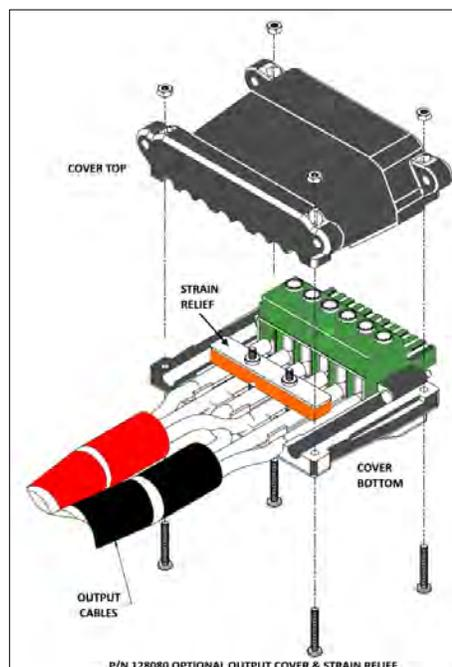
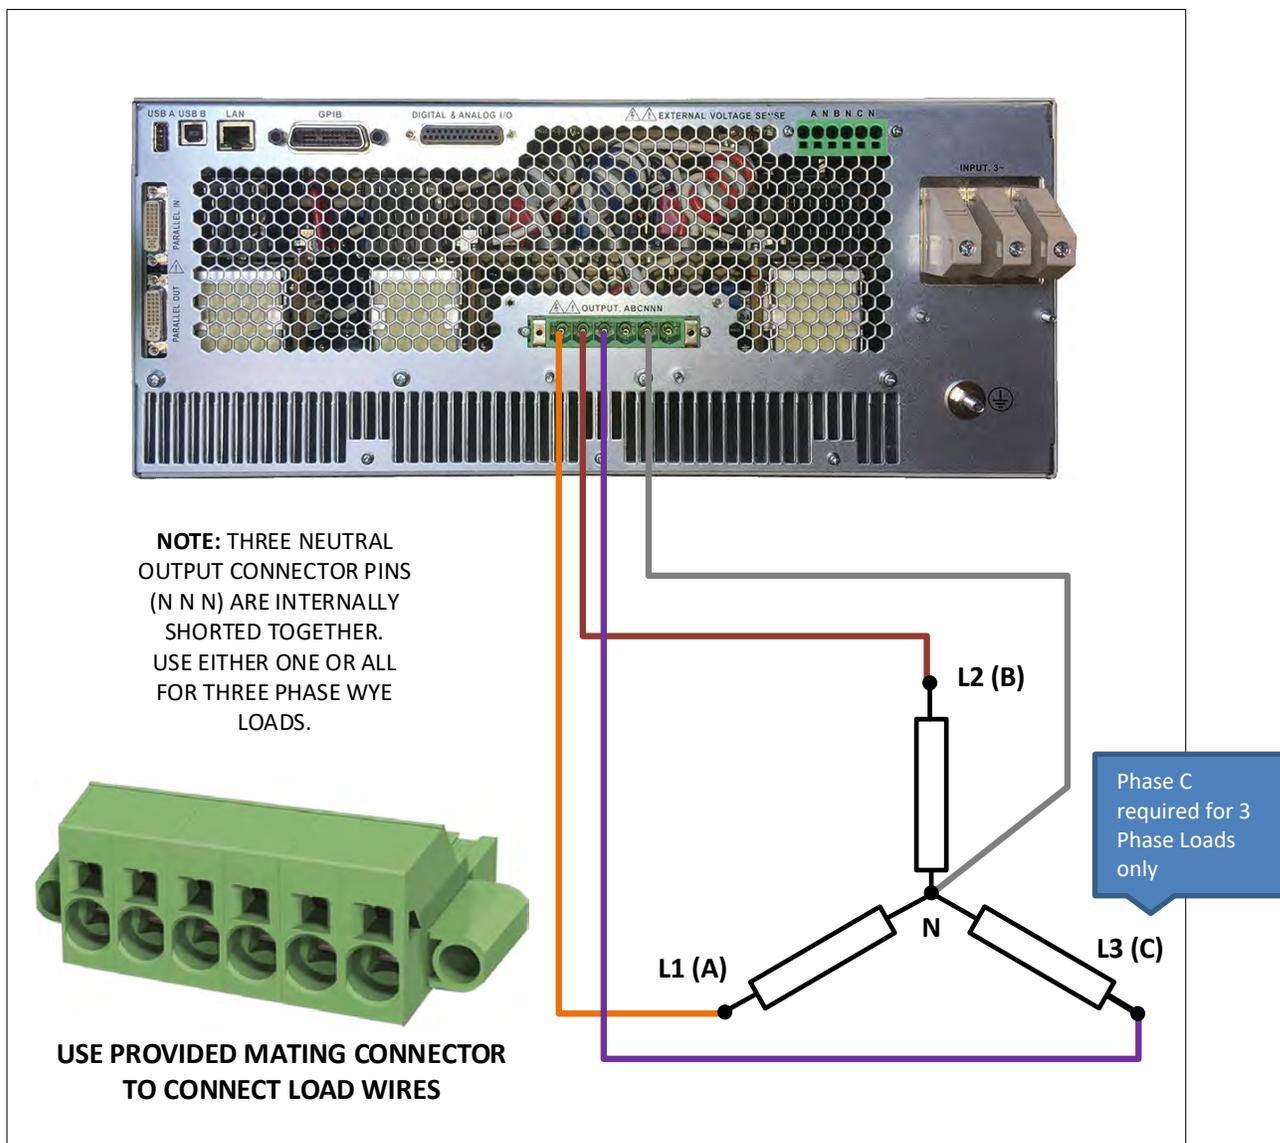
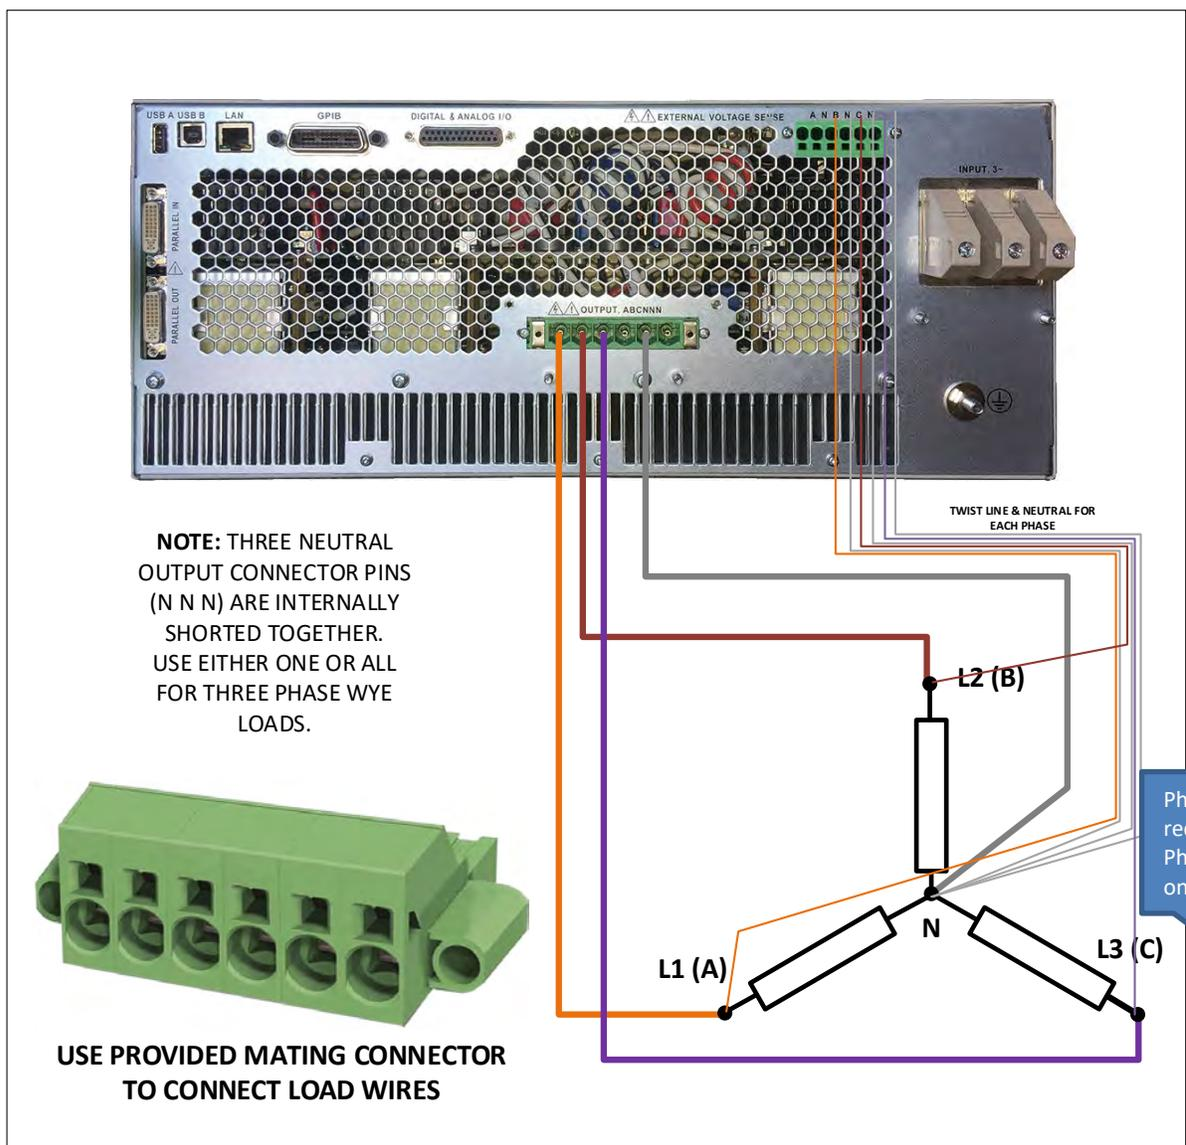

Figure 5-9: Output Cover
Figure 5-10: Three phase Wye or Split phase Load Output Connections – Internal Voltage Sense
Figure 5-11: Three phase Wye or Split phase Load Output Connections – External Voltage Sense
The requisite WYE load output wiring is shown in Figure 5-8 using internal voltage sense and Figure 5-9 when using external voltage sense.
The requisite DELTA load output wiring is shown in Figure 5-10 using internal voltage sense and Figure 5-11 when using external voltage sense.
**Note:** For three-phase sense connection wiring (model 3150ADF), refer to Figure 5-9 for 3 phase WYE load connections and Figure 5-11 for three phase DELTA load connections.